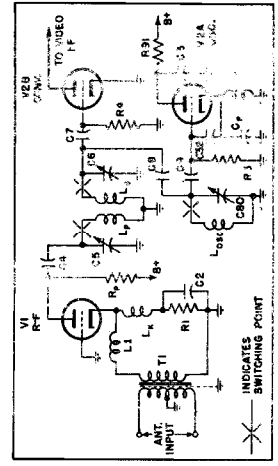

Fig. 2. R.F. Amplifier, Converter and Oscillator
1. R.F. AMPLIFIER, CONVERTER AND OSCILLATOR (SEE FIGURE 2)
The r.f. amplifier makes use of a Type 6AU6 pentode tube connected as a triode grounded grid amplifier. The antenna is connected into the cathode circuit of the tube through a transformer, T1, so as to provide a substantially constant input impedance of 300 ohms to the antenna and lead-in at all frequencies. The transformer, T1, is balanced to ground in the primary winding providing cancellation of noise picked-up on the antenna lead-in. An electrostatic shield is incorporated between the primary and secondary windings to prevent noise being induced into the secondary by capacity effect. R1 is the normal bias resistor for V1 (see Figure 2). It is placed in series with this cathode resistor to prevent the cathode bias from being lowered by the shunting effect of the cathode bias resistor and by pass capacitor, R1 and C2. It also neutralizes the total cathode capacity, thus preventing it from affecting the input impedance. The choke value is changed when switching from the lower five to the upper seven channels. L1 is a series compensating choke which prevents a loss in gain on the high frequency channels.